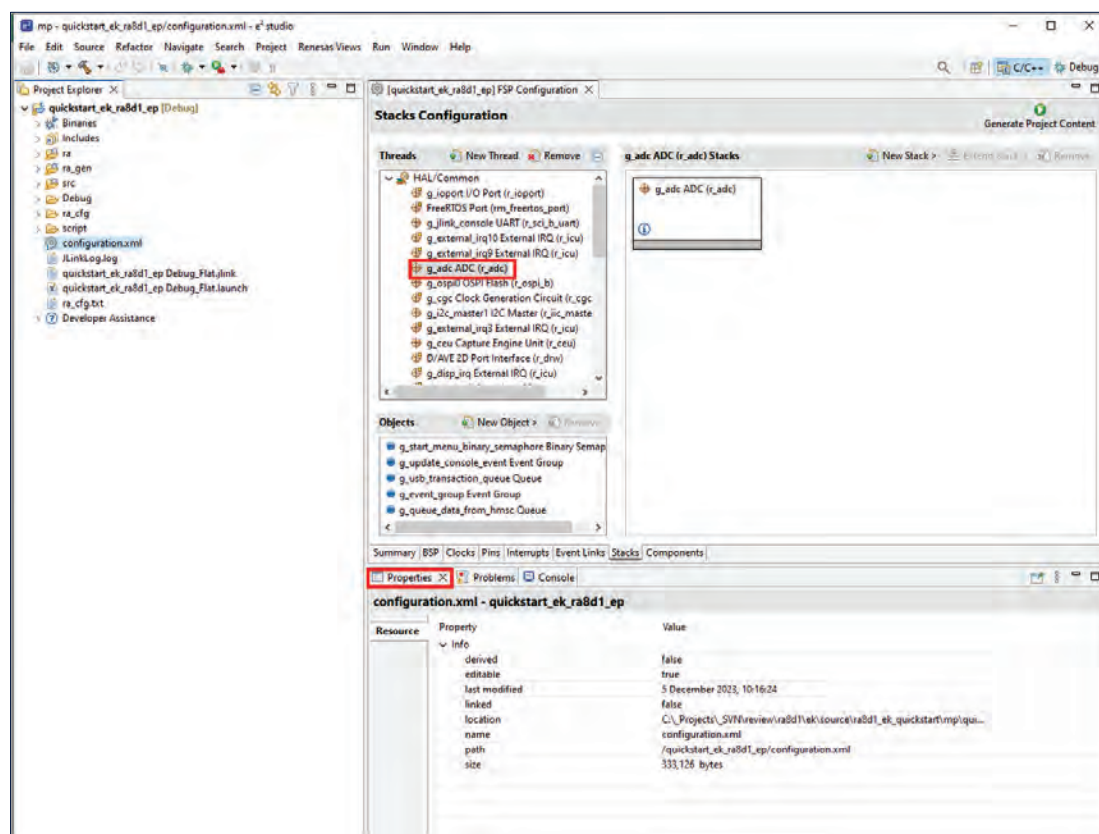

Figure 46. Modifying the Configuration Settings
2. For example, in the **Stacks** tab of the configurator, the user can click to select modules to modify the configuration settings, as required, in the **Properties** tab. Figure 46 illustrates modifying the Configuration Settings.